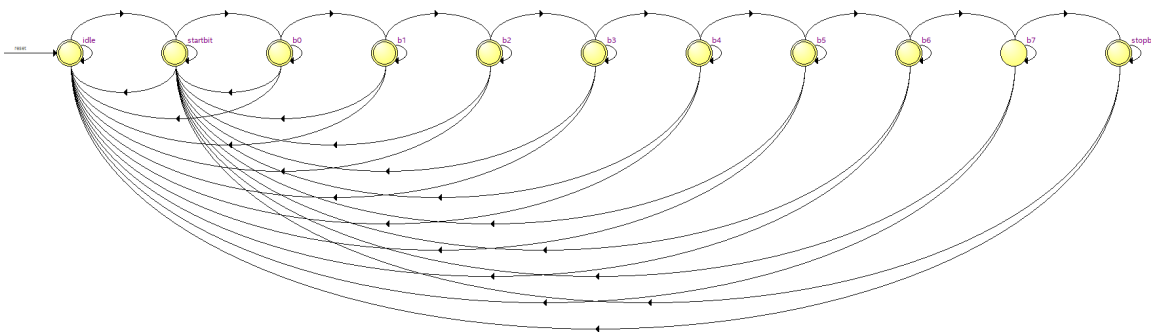

Figure 3: Sample State Transition Diagram.
Double-clicking the state machine block will display a state transition diagram similar to that in Figure 3 along with tables showing the state transition conditions and state encodings2:
3. A screen capture of the state transition diagram similar to Figure 3.